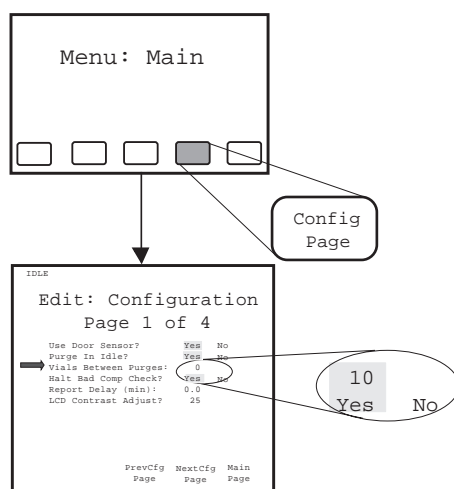

Figure 4-29 Enabling Auto Purge
To enable auto purge between sets of vials, enter the number of vials between purges (Figure 4-29).
2. Use the arrow keys to select **Yes** for Halt on Bad Compression Check (see Figure 4-29).